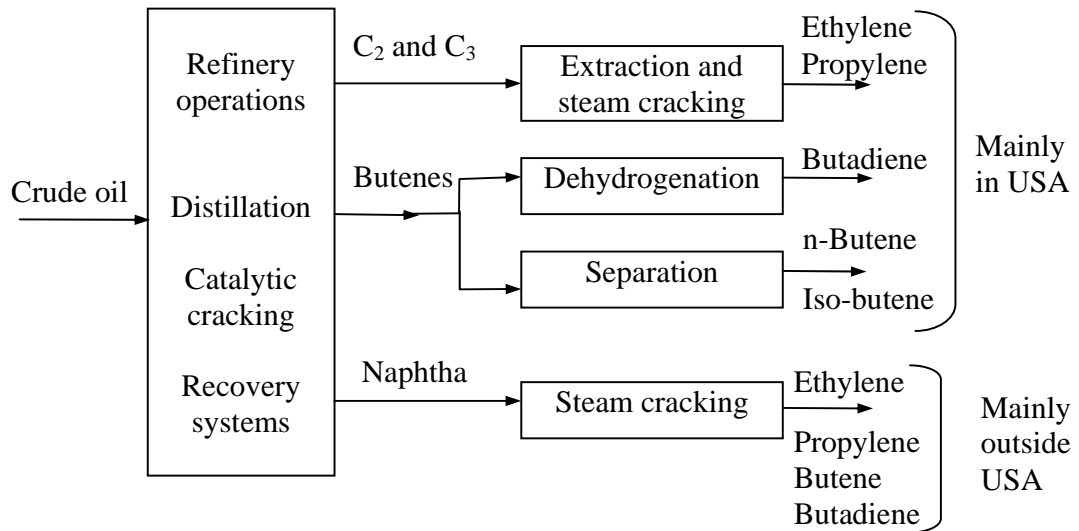

Figure 2: Lower alkenes (olefins) production from oil.
- For the production of light alkenes, there is a difference, for example, between the USA and the rest of the world (e.g., Europe and Japan). In the USA, the production of light alkenes is from alkanes such as ethane and propane. In Europe and Japan, the production of light alkenes is from naphtha. In Saudi Arabia, ethane is the main source for the production of lower alkenes. Figures 2 and 3 show the production of lower alkenes from crude oil and natural gas, respectively.